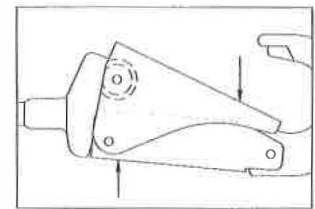

**Fig. 2**
- > Depress the lock mechanism. It should move downward easily and spring back to its original position without binding or sticking (Fig. 2).